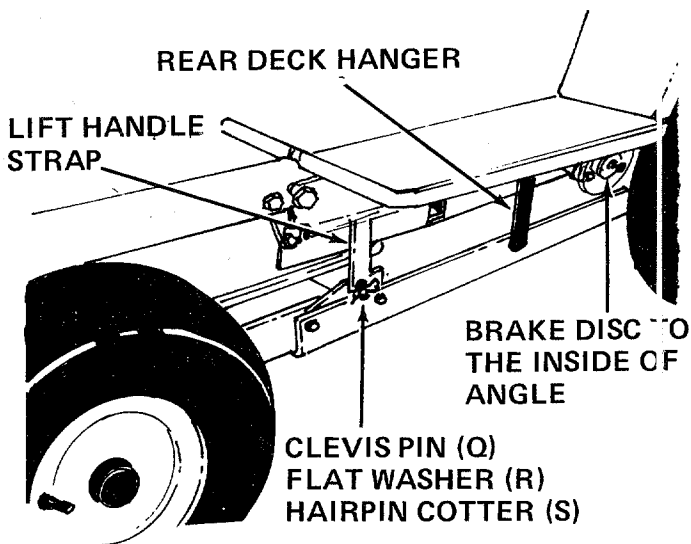

FIGURE 16
24. Secure the lift handle straps to the attaching plates with two clevis pins (Q), flat washers (R) and hairpin cotters (S) as shown in figure 16.
On four speed tractor models which have the brake disc hanging down, rear supporting angle **must be on the outside of disc.** See figure 16.